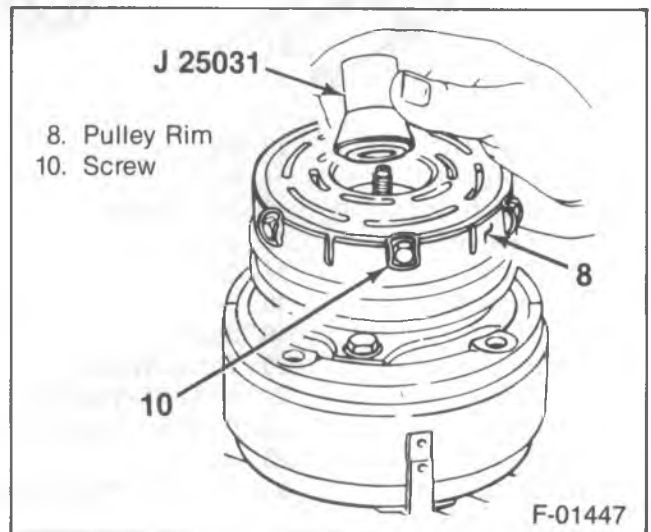

Figure 9—Installing the Rotor and Bearing Guide
- Place J 25031 guide on the compressor shaft (figure 9).